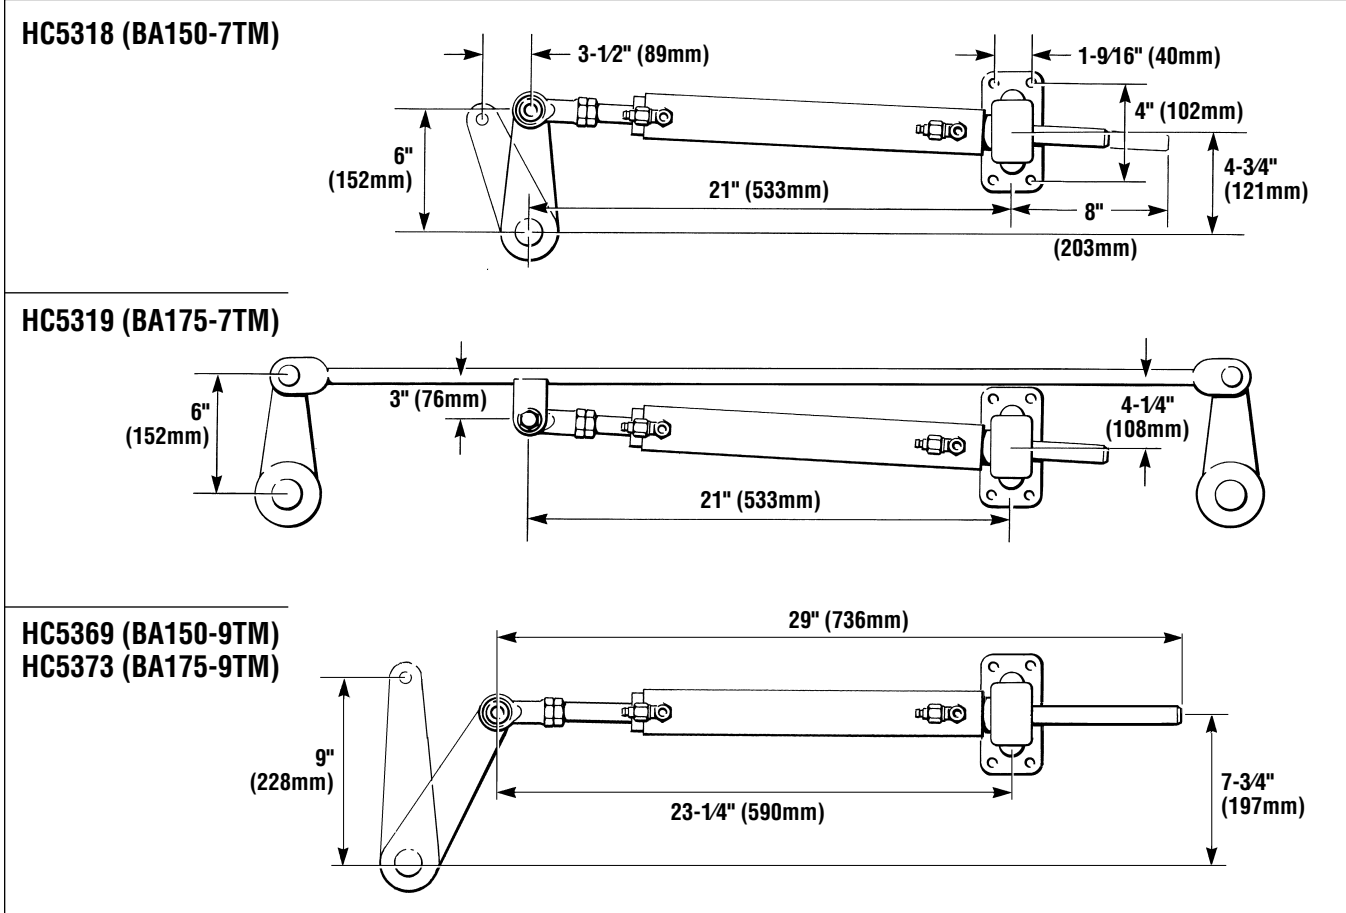

Figure 7.
4. Extend cylinder rod to arrive at 21" (533 mm) or 23-1/4" (591 mm) from center of rod end ball joint to the center of the mounting foot. See figure 7.